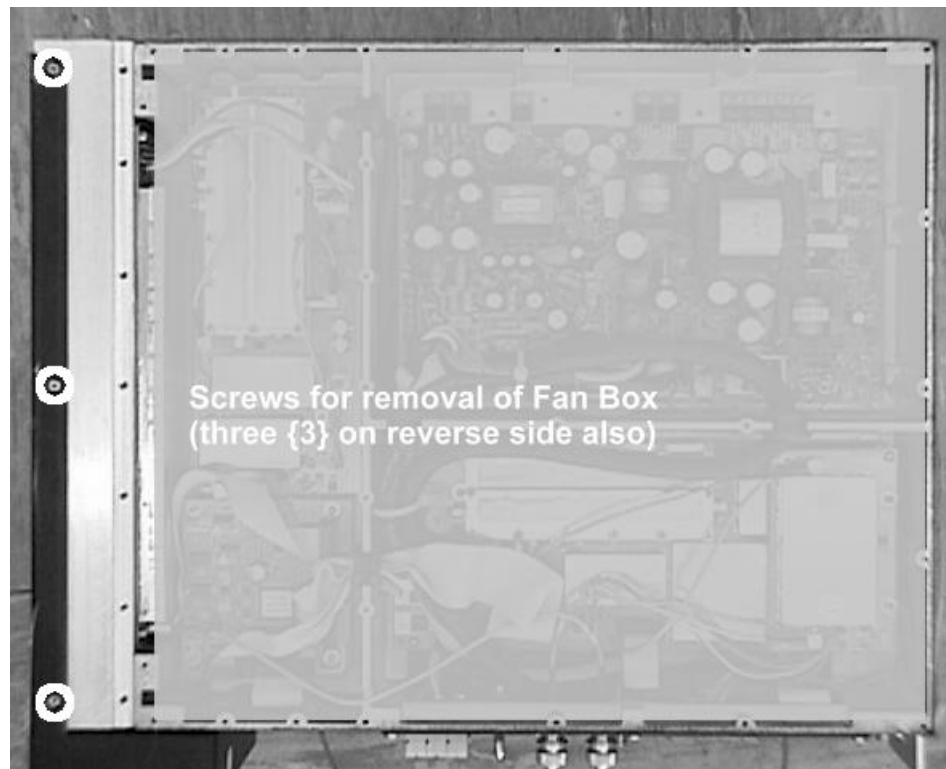

Figure 7.18: Screws for 10 W UHF PA Fan Box Removal¹
3. Remove the six screws securing the cooling fan box assembly (see Figure 7.18) to the PA heatsink to reveal the heatsink securing screws.
9. Reconnect the Fan control wires as noted in 4. above and position the Fan Box over the PA Heatsink. Refit the six screws securing the Fan Box to the PA Heatsink (Refer to Figure 7.18).